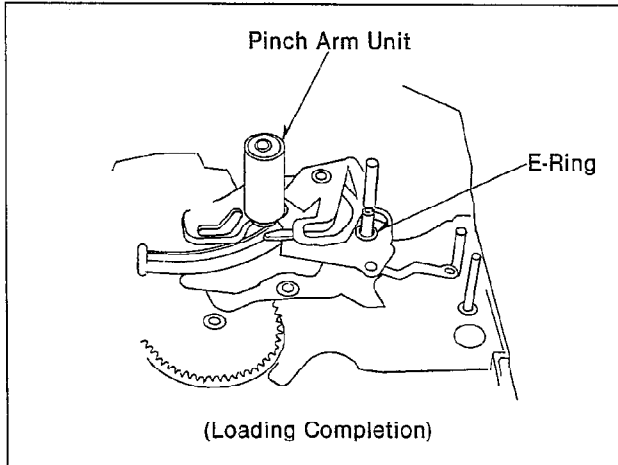

Fig. M20
- (3) Install the Pinch Arm Unit, and then insert the E-Ring as shown in Fig. M20 and M21.